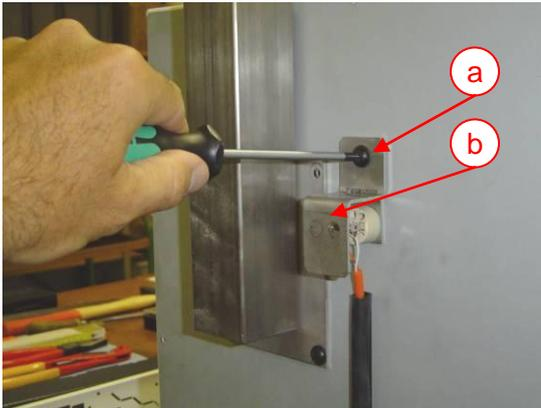

Fig. 20 – thermocouple cover
- Loosen the fastening screw (Fig 20 a) and remove the protective cover (Fig. 20 b)